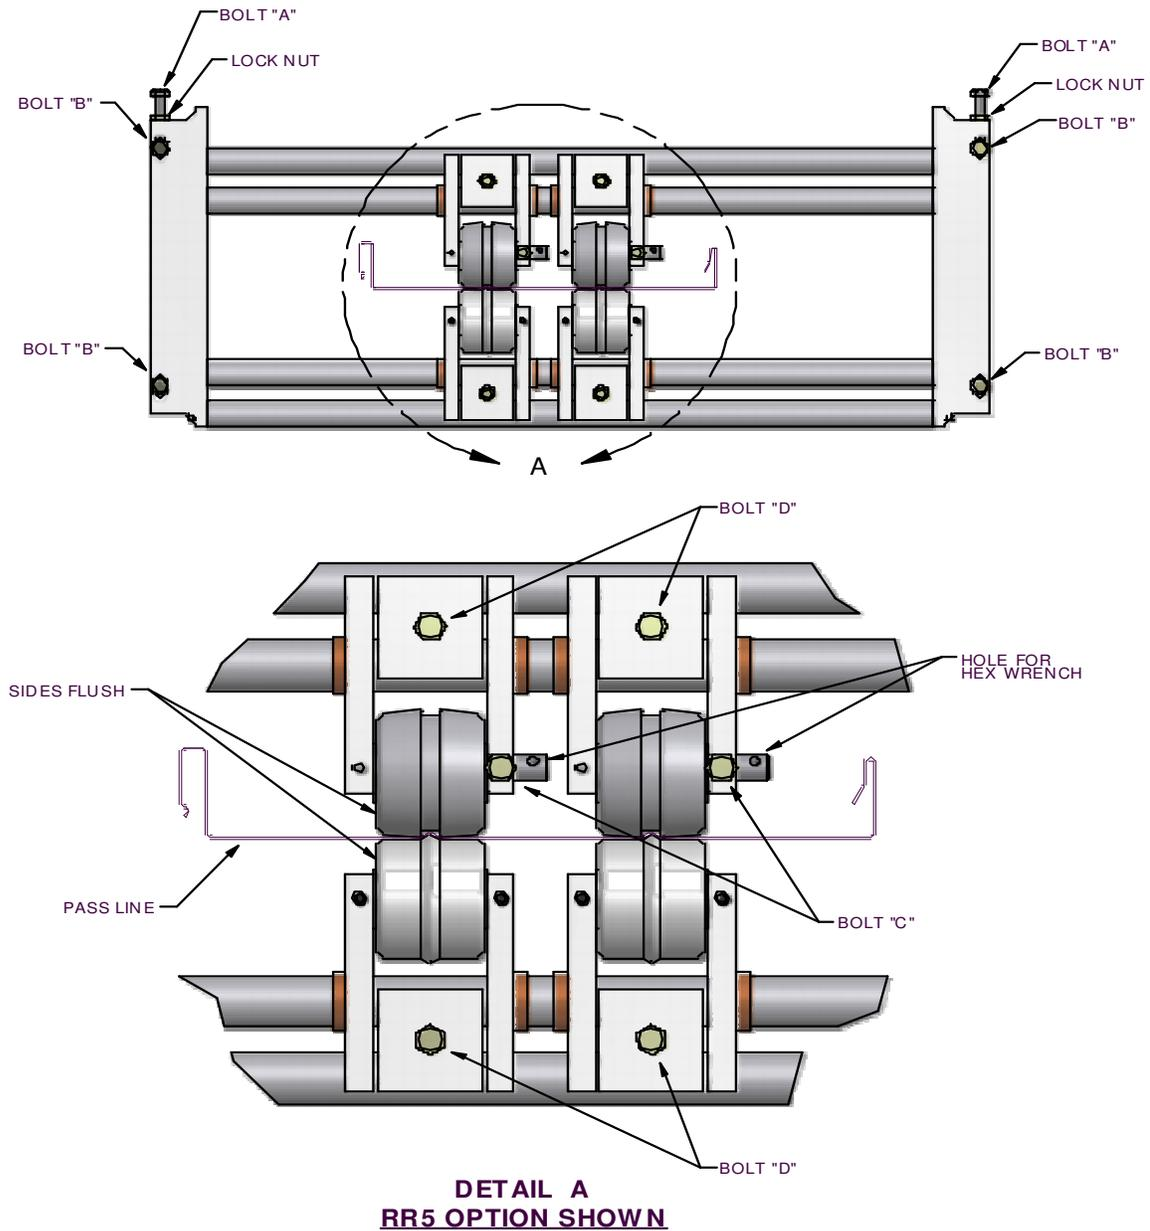

Figure 37: Bead Roller Width Change
9. Loosen the slide lock bolts on the top and bottom bead assemblies (Figure 37) and slide each bottom and top roll assembly left or right to center them on the 4” and 8” marks on the panel.
12. To set or change the gap between top and bottom beads, loosen the "C" bolt on both top rollers (Figure 37).